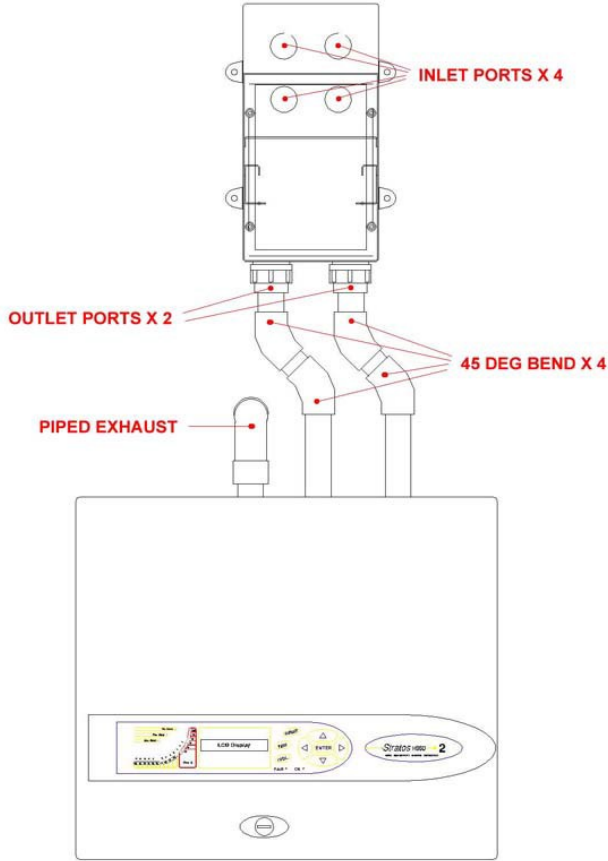

Fig. 3 Typical installation format
- The sampling pipe should enter the rear of the heater box using the appropriate number of inlet ports (four provided) immediately after exiting the cold area. The two pipes exiting the base of the heater box then enter the detector. To allow for the pipe work transition from the heater box to the detector, adequate space should be allowed for 2 x 45° bends per pipe as shown in figure 3.